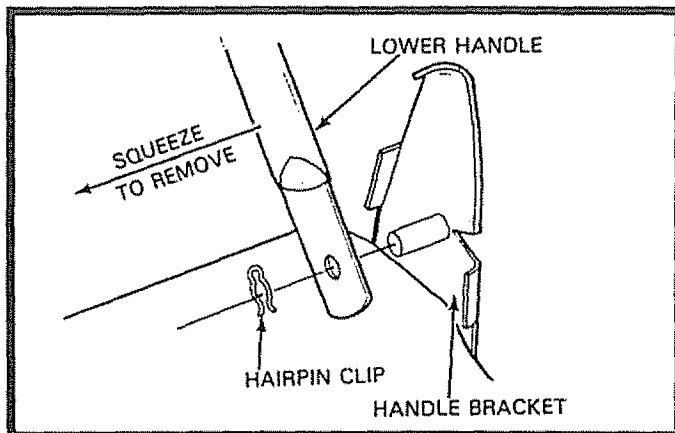

FIG. 16
- Remove the upper handle section and all of the parts that are attached to the lower handle section. Remove all of the parts that hold the lower handle to the handle brackets (See Fig. 16).
- Turn the lower handle over and re-assemble all of the parts that were taken off. Re-assemble the upper handle (See Fig. 16).